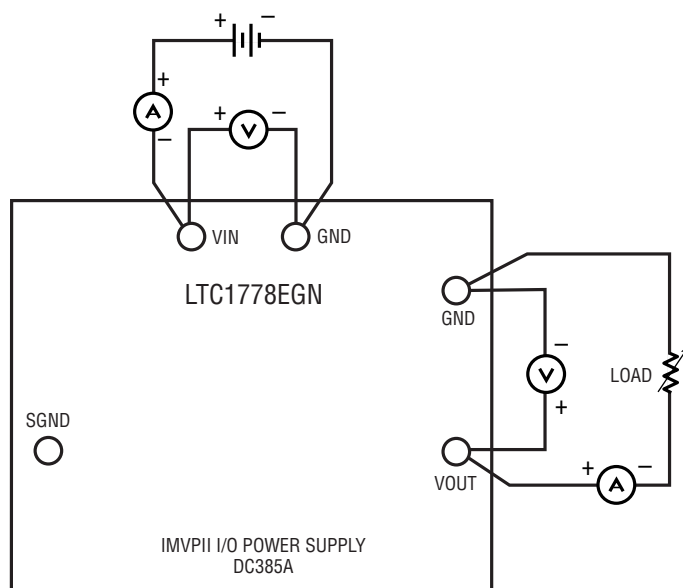

Figure 1. DC385 Test and Measurement Setup
1. Connect input power to the V_{IN} and GND terminals. Input voltage is limited to between 5V to 28V. Refer to Figure 1 for proper measurement equipment setup.